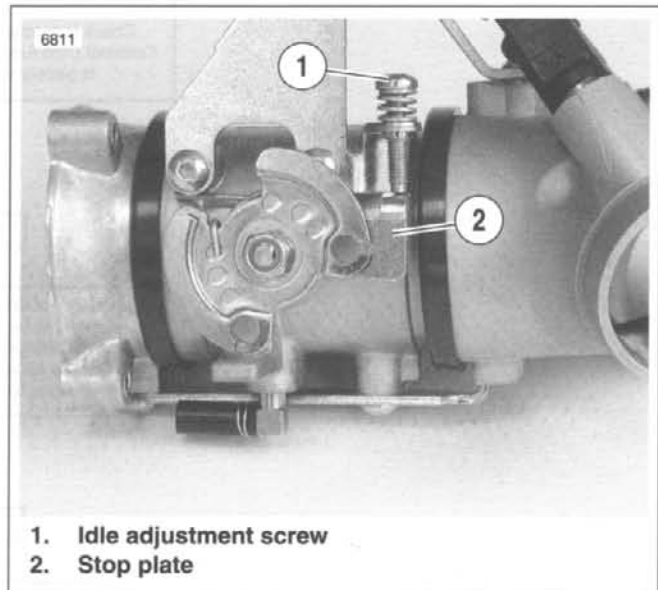

Figure 4-37. Idle Adjustment Screw (1999 Models Only)
See Figure 4-37. Use the adjustment screw (1) on the throttle body manifold to make idle speed adjustments. Normal idle speed 850-1050 RPM.